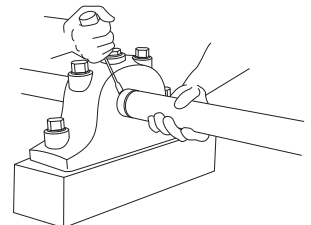

Figure 2
7. To keep adapter from turning on shaft tap on large end (opposite adapter nut). If large end of adapter is inaccessible, insert point of Flathead screwdriver between housing and adapter nut and twist screwdriver (see figure 2).